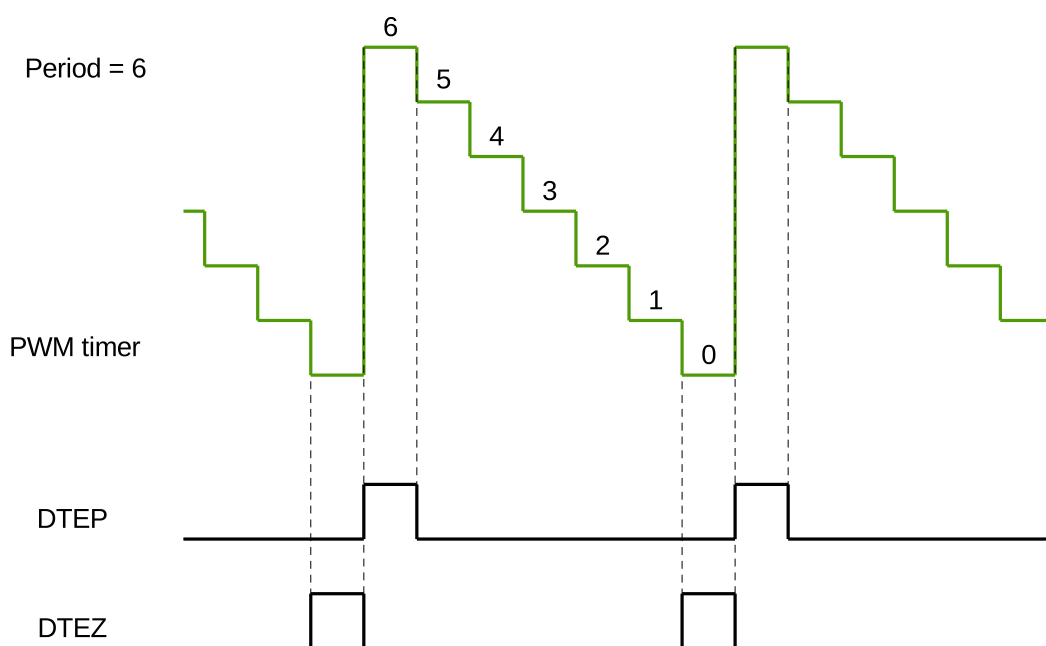

Figure 36.3-10. DTEP and DTEZ Generation in Count-Down Mode
2. DTEP and DTEZ do not happen simultaneously. When the PWM timer is in Count-Down Mode, DTEZ will always happen one cycle earlier than DTEP, as demonstrated in Figure 36.3-10, so their action on PWM